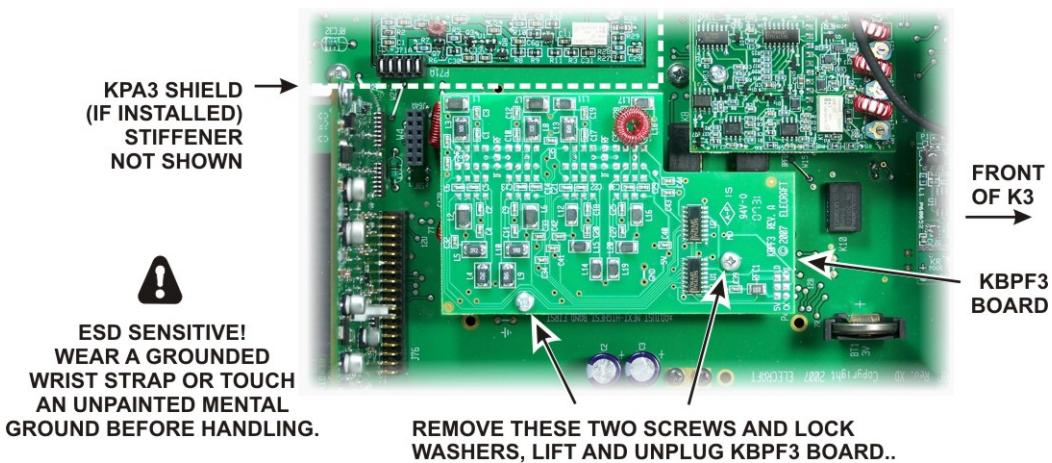

Figure 2. Removing KBPF3 Board.
- If you have the KBPF3 board installed, remove it as shown in Figure 2.